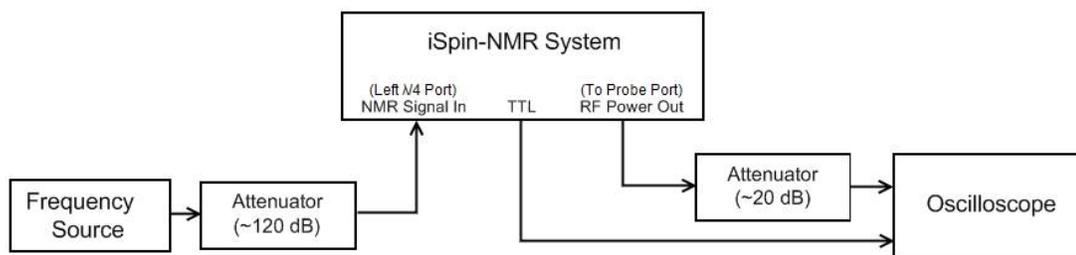

Figure 7: iSpin-NMR test setup.
2. Connect your iSpin-NMR system as shown in Figure 7. For iSpin's with SMA connectors that match Figure 5, the 'To Probe' connector is the 'RF Power Out' connector and the left 'N/4' connector is the 'NMR Signal In' connector. Note that pin-4 on the TTL output DB-9 connector is the blanking signal and can be used to trigger the oscilloscope.